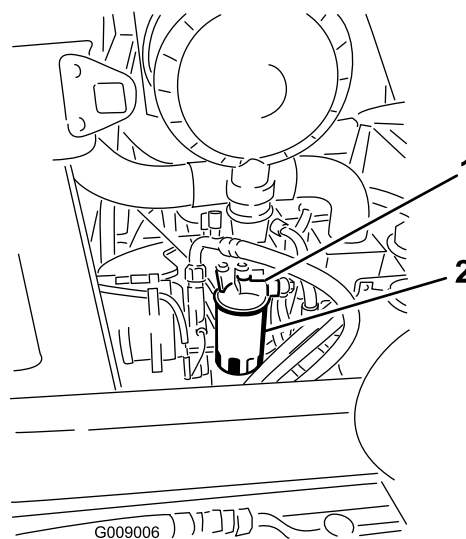

Figure 63
1. Clean the area around the fuel-filter head (Figure 63).
2. Remove the filter and clean the filter-head-mounting surface (Figure 63).